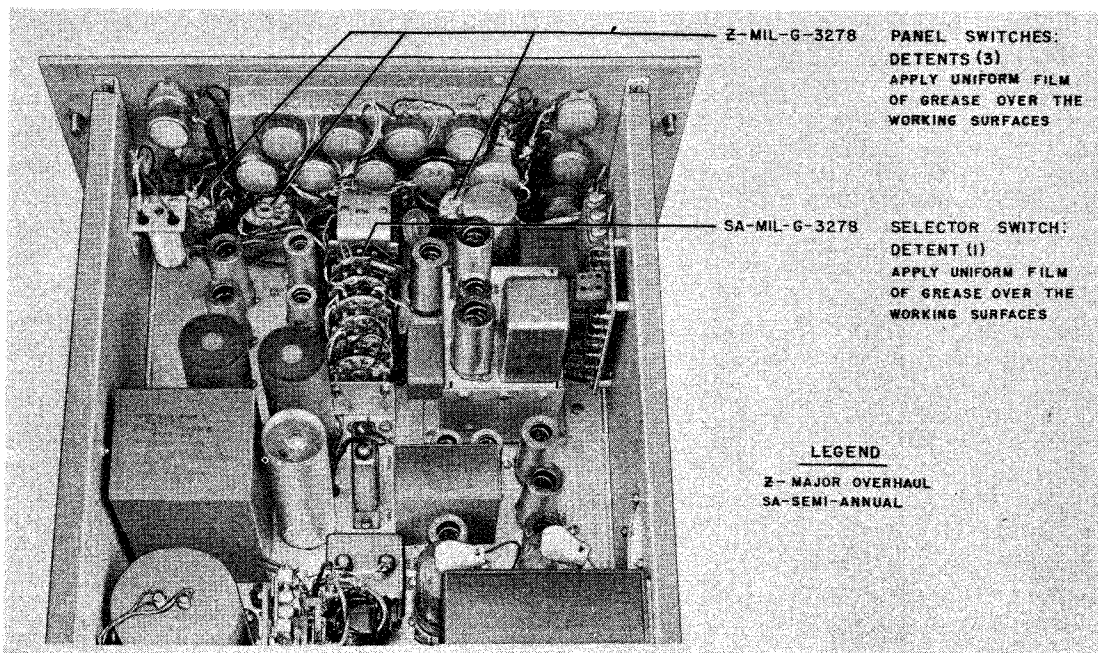

Figure 6-24. Radio Modulator MD-229/SRT (LLRM), Front Panel Switch Lubrication
(4) RADIO MODULATOR MD-229/SRT (LLRM).—The location of the front panel switches and their lubrication are shown in figure 6-24, a view behind the front panel of the LLRM.
- (k) Figure 6-24
- (b) Figure 6-24